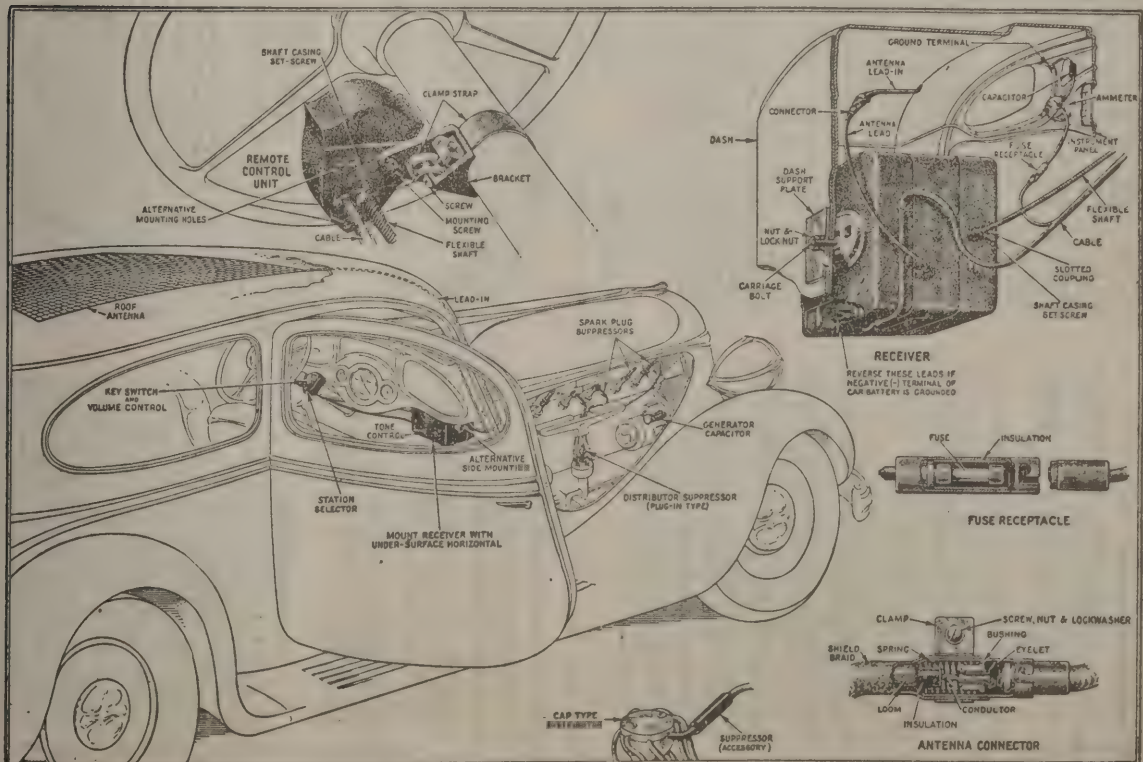

Figure 1
3. CHECK POLARITY OF AUTOMOBILE STORAGE BATTERY SUPPLY. If the negative (—) side is grounded to car frame, make changes to chassis connections shown in Figure 1. Do not disturb these connections if positive (+) side is grounded. (See details under "Mounting of Units"—page 5.) Replace case cover.
4. Determine most satisfactory mounting position (see details under "Location of Units"—page 4); spot mounting-bolt location and drill $\frac{1}{8}$ " diameter hole. Insert bolt through dash and assemble support plate and nuts on engine side. Hang receiver over bolt head and tighten nuts. (See Figure 1 and details under "Mounting of Units"—page 5.)
5. Attach remote control unit to steering column by means of mounting bracket and strap. (See Figure 1 and details under "Mounting of Units"—page 5.)
6. Assemble flexible shaft to receiver and remote control unit. (See Figure 1 and details under "Mounting of Units"—page 6.)
8. Connect terminal at end of black lead from cable to binding-post of automobile ammeter (see Figure 1 and details under "Connections"—page 7). The ignition by-pass capacitor (equipped with two leads) should be installed at this time. (See Figure 1 and paragraph 4 under "Suppression of Ignition Interference"—page 7.)
9. Install spark-plug and distributor suppressors; also generator by-pass capacitor (see Figure 1 and paragraphs 1, 2 and 3 under "Suppression of Ignition Interference"—page 7).
Details of mounting the various units are shown in Figure 1. The following procedures are recommended:
NOTE—At this point, it will be advisable to determine the electrical polarity of the storage battery supply. This may be done most conveniently by making an examination of the battery connections and ascertaining which terminal is grounded (that is, connected to the frame of the car). The positive terminal is usually marked (+) and tends to form corrosion far more rapidly than the negative (—). If the positive terminal is grounded, no change in the electrical connections of the receiver unit will be required. However, if the opposite is true, the two leads (equipped with spade terminals) located beneath the radio chassis as shown in Figure 1 must be reversed.
Remote Control Unit—In attaching the remote control unit to the steering column of the car, it will be advisable first to examine the detailed view (in Figure 1) showing the assembly of its mounting bracket. Four small holes are contained in the associated flexible strap at distances proper for use with steering columns of the most common diameters (1 1/2, 1 3/4, 1 3/8, 1 1/4 inches) but the strap length will be found sufficient to permit the insertion of an additional hole if necessary to accommodate a 2 inch column. The proper hole may be determined by wrapping the clamp strap tightly around the column, inserting the machine screw furnished through that hole found to be nearest in alignment with the tapped hole in the clamp bracket. Three tapped holes are provided in the back of the remote control unit, permitting support of that unit either at the right- or left-hand side or above the steering column.
Receiver and Remote Control Units—The arrangement of units shown in Figure 1 is recommended and will be found applicable to the majority of automobiles. Consideration should be given to the possibility of interference of the receiver with other equipment beneath the instrument panel or of the mounting bolt with apparatus on the engine side of the dash. By placing the receiver unit toward the right-hand side of the dash, the flexible shaft will be in correct length as furnished in practically all cases. This position, however, may be considered impractical because of its universal preference for heating devices, necessitating installation of the receiver unit either near the center or at the extreme left-hand side of the dash and the use of a shorter flexible shaft. In such cases, the shaft may be either short-
Refer to the detailed view of the antenna connector shown in Figure 1 and proceed to attach the lead-in wire (if shielded) as follows: First, cut the end of the lead-in so that the internal insulated wires are flush with the end of the shield. Then, the shield covering and push back the shield approximately 1½ inches. Cut the boom to the end of the